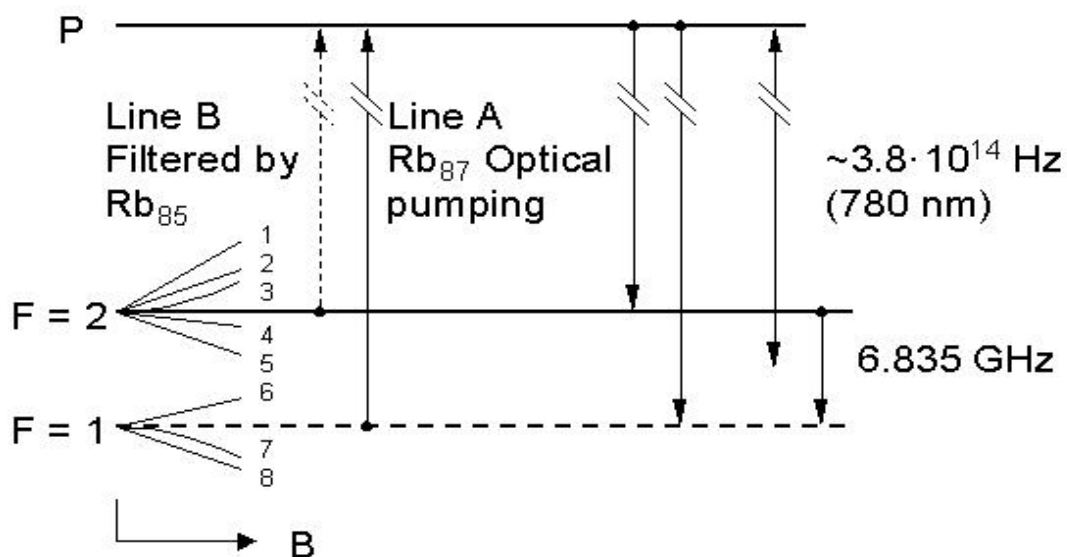

Figure 2 Energy levels and transitions in Rb87 atoms during GRCLOCK-1500 operation.
In order to detect the clock transition between these two levels, the atoms need to be manipulated in such a way that most of them occur in only one level. This is done by optical pumping via a higher lying state (P). Figure 2 visualizes the atomic energy levels and transitions involved in the optical pumping process.